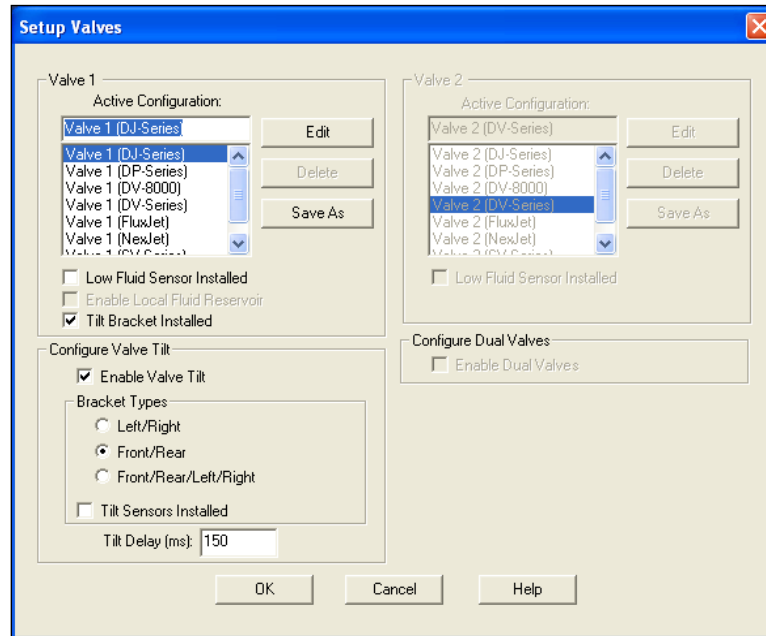

Figure 3-8 Setup Valves
- The Setup Valves window opens (Figure 3-8).
4. Make sure the following options are enabled. A check mark indicates they are enabled (Figure 3-8).